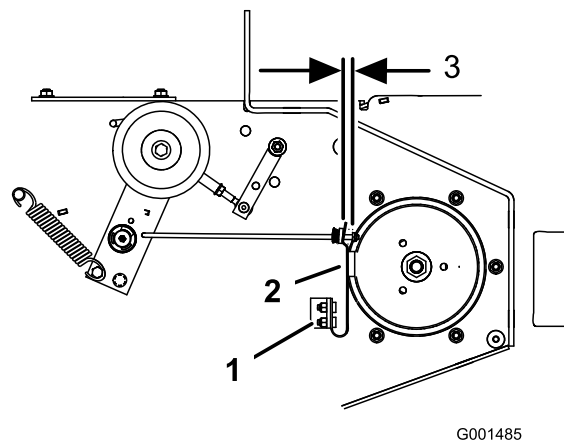

Figure 54
3. If necessary, adjust the spring-mounting bolts so that the blade-brake pad rubs against both sides of the pulley groove (Figure 54).
4. Adjust the nut at the end of the blade brake rod until there is 3 mm to 5 mm (1/8 to 3/16 inch) between the nut and spacer (Figure 54).